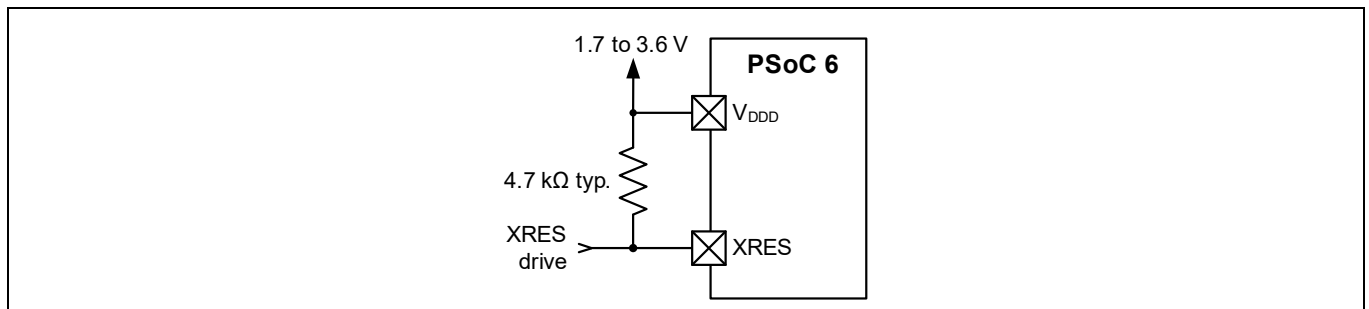

Figure 5 XRES connection diagram
- External reset dedicated pin (XRES) to reset the device using an external source. The XRES pin is active low. It can be connected either to a pull-up resistor to V_{DD} , or to an active drive circuit, as **Figure 5** shows. If a pull-up resistor is used, select its value to minimize current draw when the pin is pulled low; 4.7 k Ω to 100 k Ω is typical.